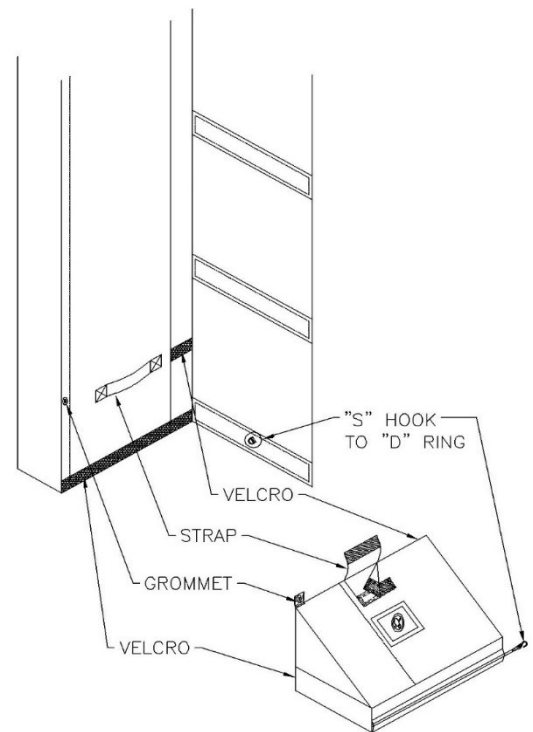

FIG. 8
- vi. Attach phantom draft pad to bottom inside of vertical pads. **FIRST**, attach the back face of the phantom draft pad to the inside face of the vertical pad. **SECOND**, pull strap on phantom draft pad through loop on inside face of vertical pad and Velcro back onto phantom draft pad top face, attach the phantom pad bungee cables to the removable inward panels by hooking the "S" hook through the grommet on the back of the removable panel (Fig 8).